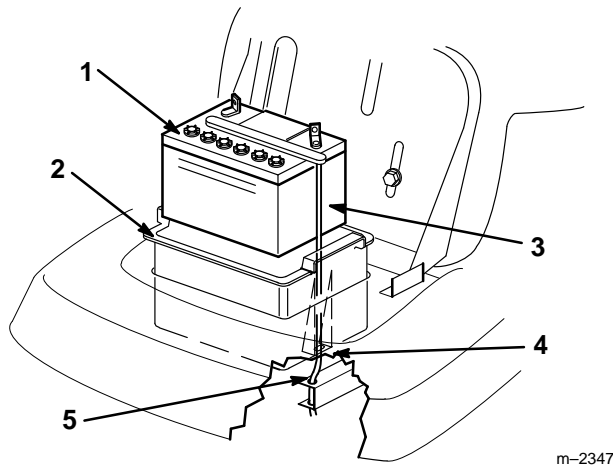

Figure 21
5. Remove the battery box, battery, and long vent tube from the chassis (Fig. 21).
1. Put the battery into the battery box and slide the vent tube into the channel and through the slot in the bottom of the box (Fig. 21).
IMPORTANT: Look down into the cut out area where the battery box fits into the chassis. Notice the holes at the end of the right frame member (Fig. 21). Always install the long battery vent tube through the holes to prevent battery acid from corroding the tractor and mower.
2. Install the battery box and battery into the chassis (Fig. 21). Make sure to slide the end of the vent tube through the holes in the frame (Fig. 21).